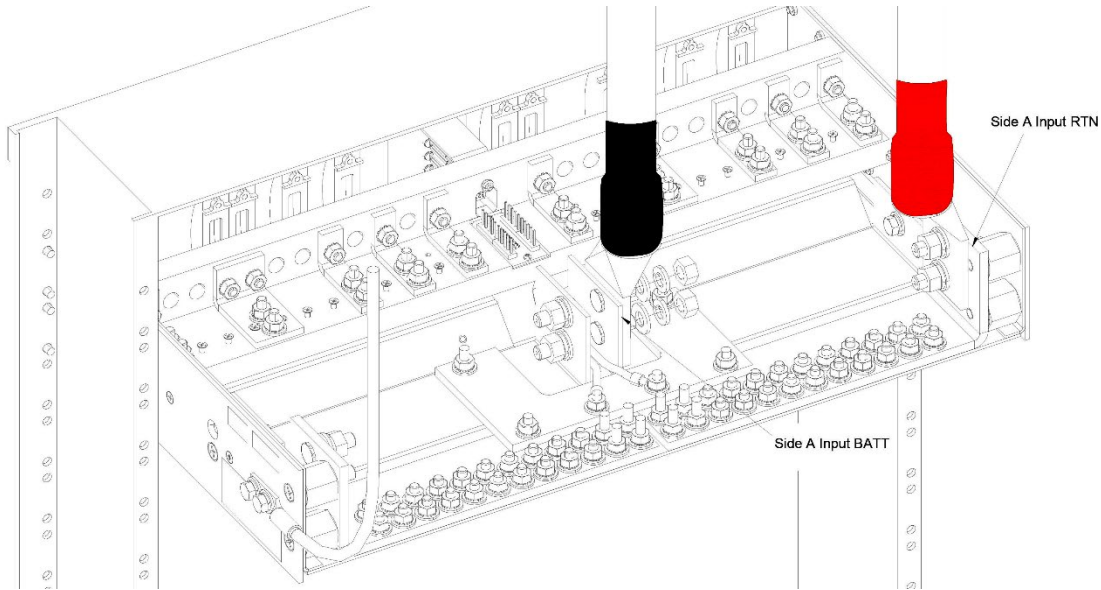

Fig.8: Input lugs
11. If required, lightly coat antioxidant on lugs and input BATT and RTN terminals and then connect lugs to input terminals, as shown in Fig. 8. Tighten lugs to 150 in/lb. (~17 N•m), max.